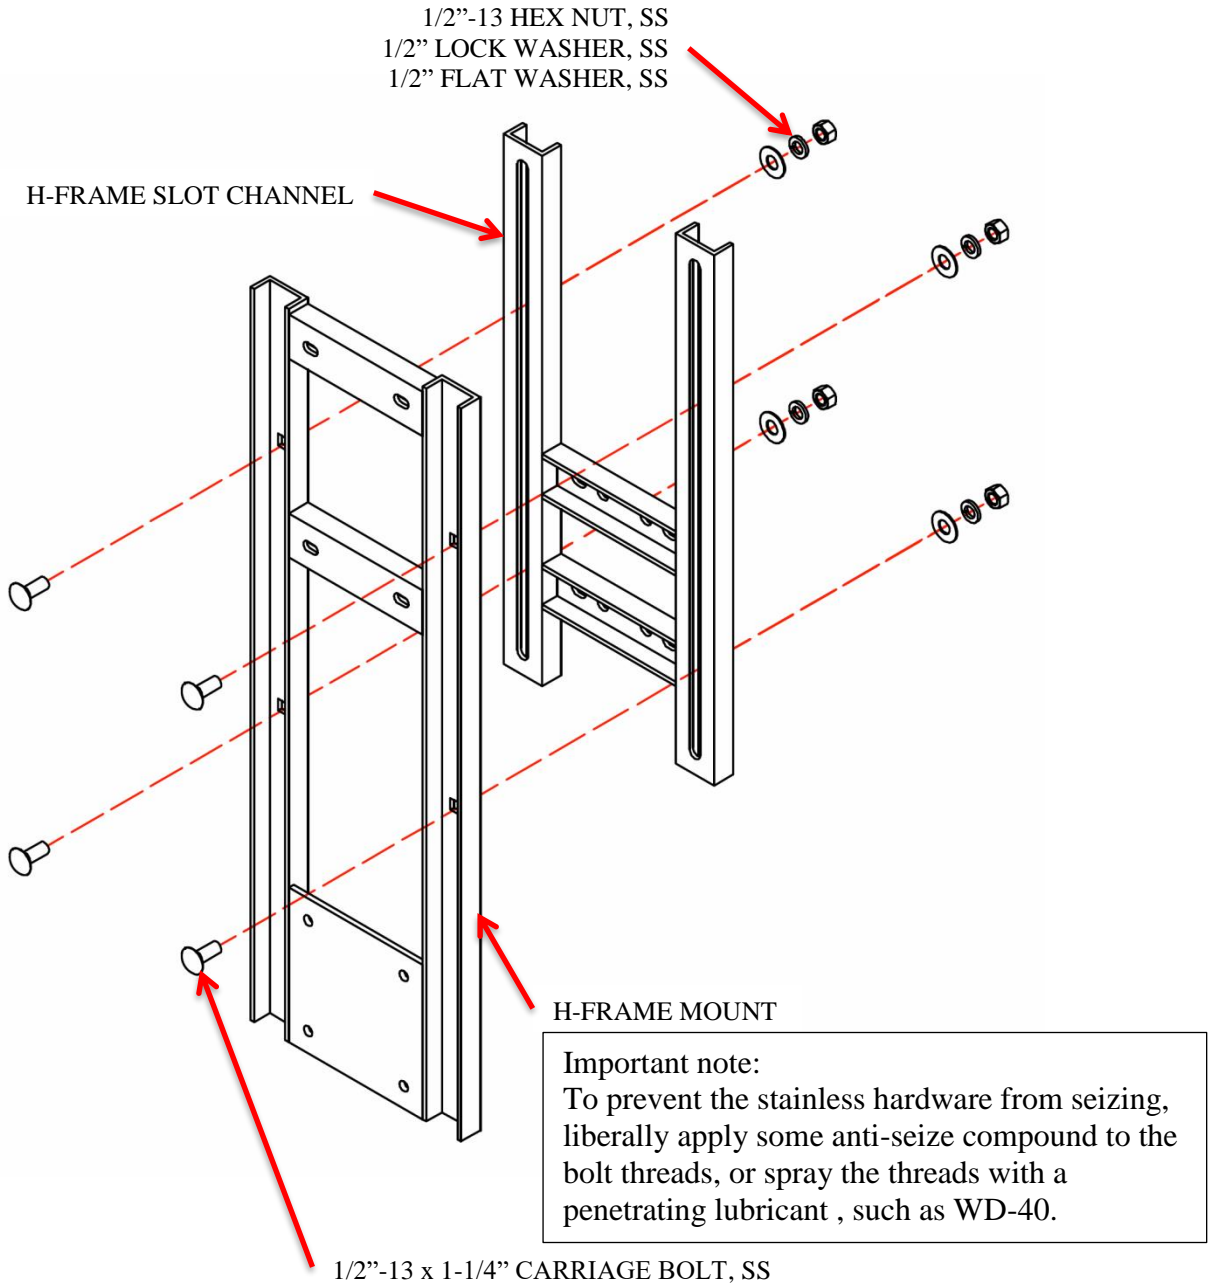

Figure 2
1. Attach the H-Frame mount to the H-Frame slot channel with 1/2" carriage hardware as shown (Figure 2). Do not tighten.